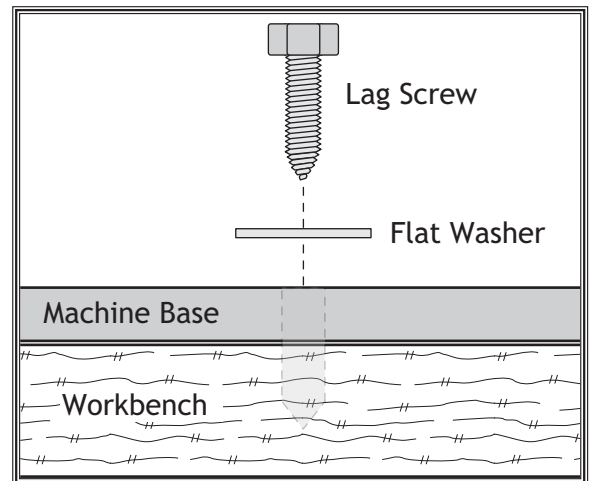

Figure 5. Example of direct-mount setup.
- "Direct Mount" (see **Figure 5**). Pen press base is secured directly to workbench with lag screws and flat washers.